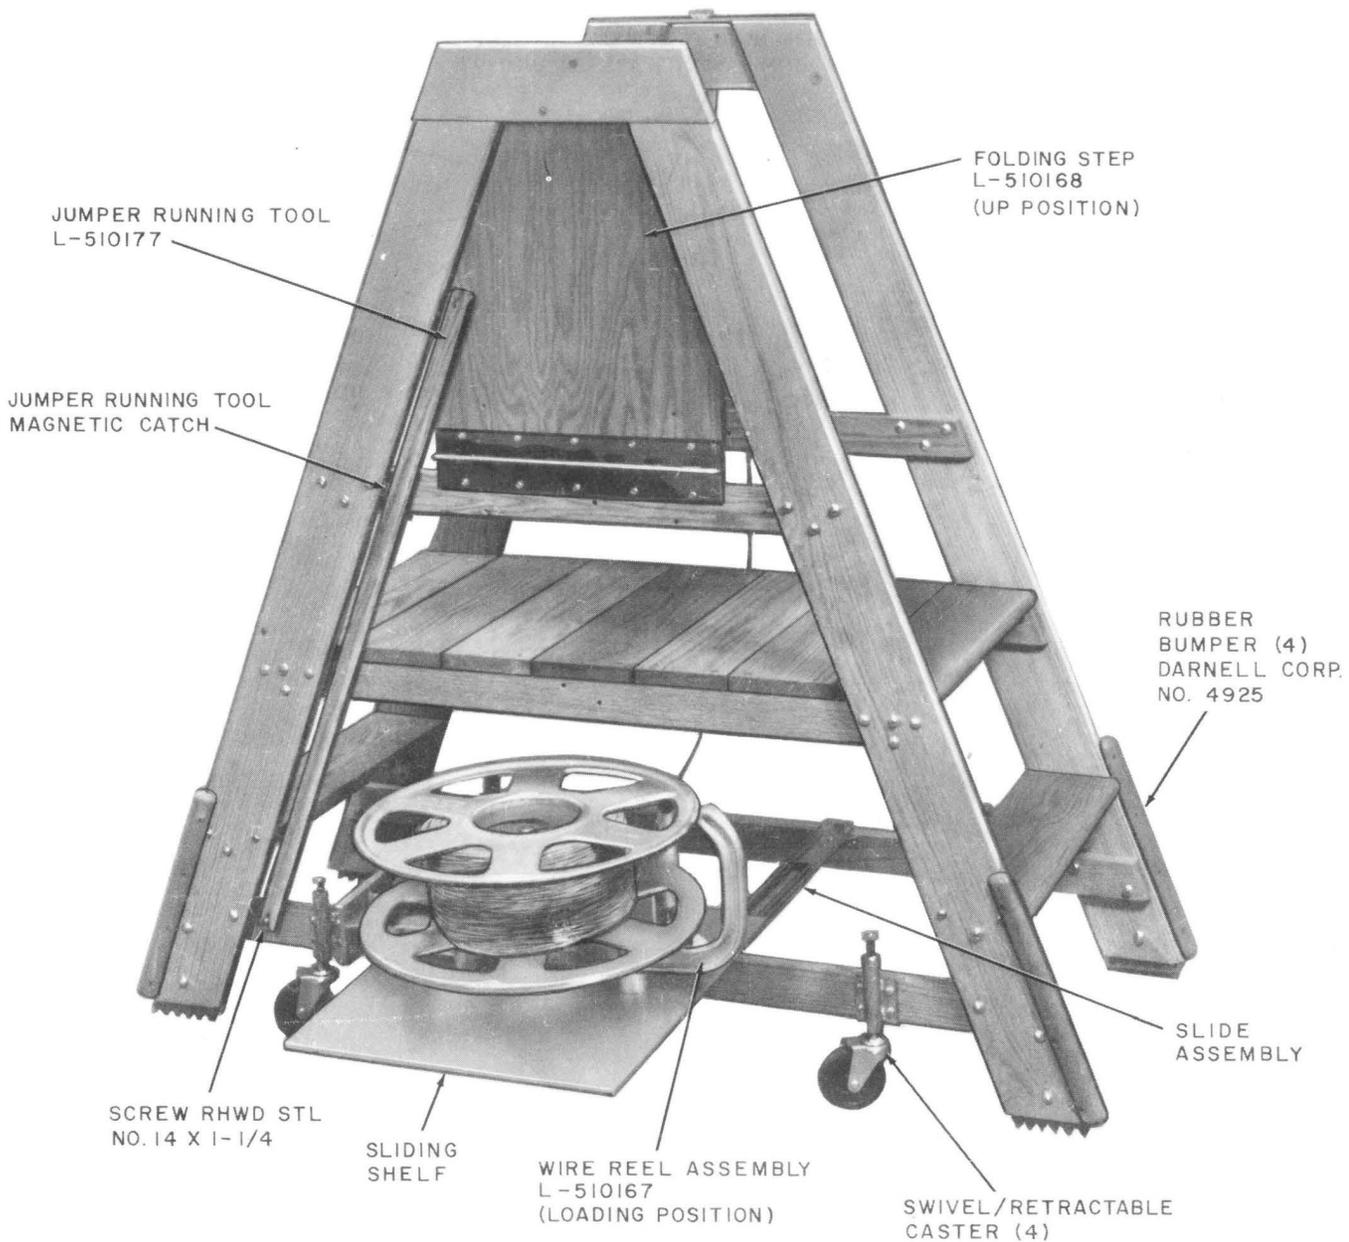

Fig. 3—KS-21415 L2 Rolling Platform Ladder (Wire Reel Loading Position)
1.07 *Self-Storing Folding Step:* The self-storing folding step on the ladder allows personnel to reach the upper horizontal wiring channels, express troughs, and termination locations. The folding step (Fig. 3) is secured in the stored position by a recessed positive locking system.
- (1) Disengage the spring-loaded locking pin and pull the shelf with reel out to the full extension of the glide runners (Fig. 3).